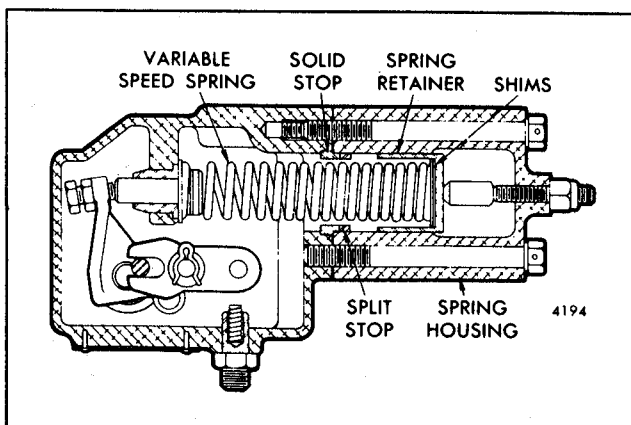

Fig. 3 - Location of Shims and Stops
3. Refer to Table II and determine the stops or shims required for the desired full-load speed. A split stop can only be used with a solid stop (Fig. 3).